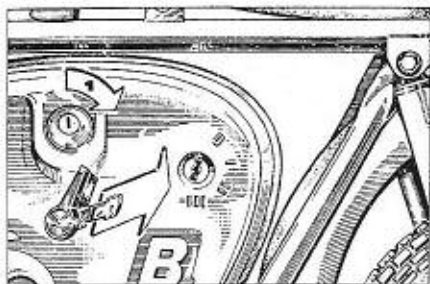

Fig. 6
- Switch on the ignition system (Fig. 6) — this is omitted in variants without ignition-light switch.